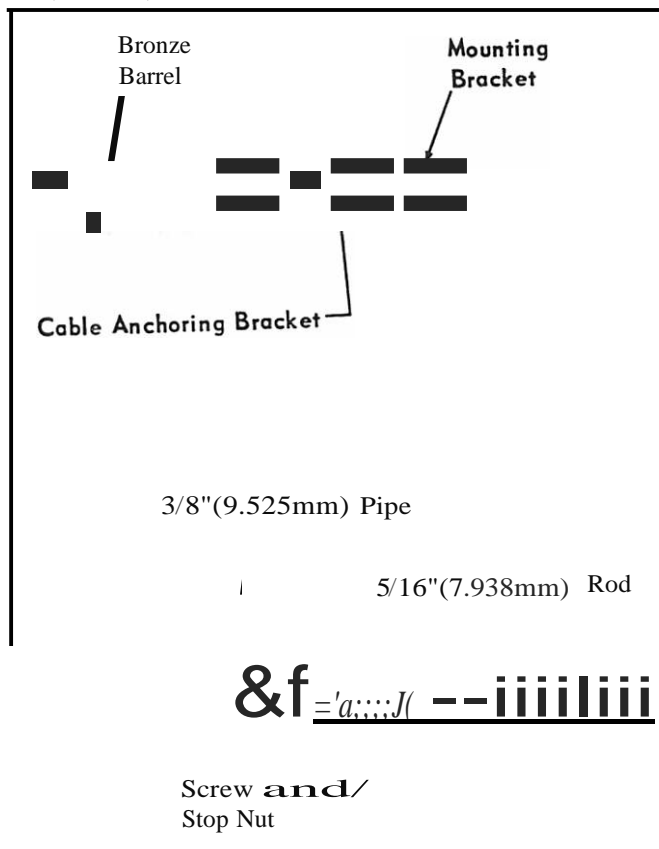

Figure 4. Remote Control Cable Extension
3. Attach mounting brackets from kit to ends of threaded pipe. Rod must be threaded 5/16-24x1" long. Install rod thru pipe and mount rigid unit to boat. (Figure 4)